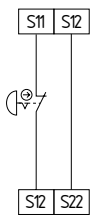

Fig. 5
**Single-channel emergency stop circuit with command devices to EN ISO 13850 and EN 60947-5-5 (Fig. 5)**